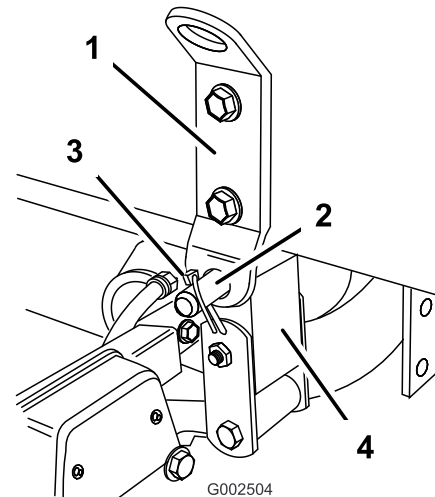

Figure 21
- Line up the pivot lug at the rear of the tank skid assembly with the opening at the end of the vehicle frame (Figure 21).
- Install a clevis pin (3/4 inch) and two lynch pins to secure the tank assembly to frame (Figure 21).
- Check the alignment of the tank skid and the vehicle frame. If necessary, loosen the bolts securing the pivot lug to the tank skid frame slightly (Figure 21). Raise the tank assembly just enough above the vehicle frame to be aligned and lowered into proper position. Tighten the bolts on the pivot lug once the tank skid is aligned with the vehicle frame.